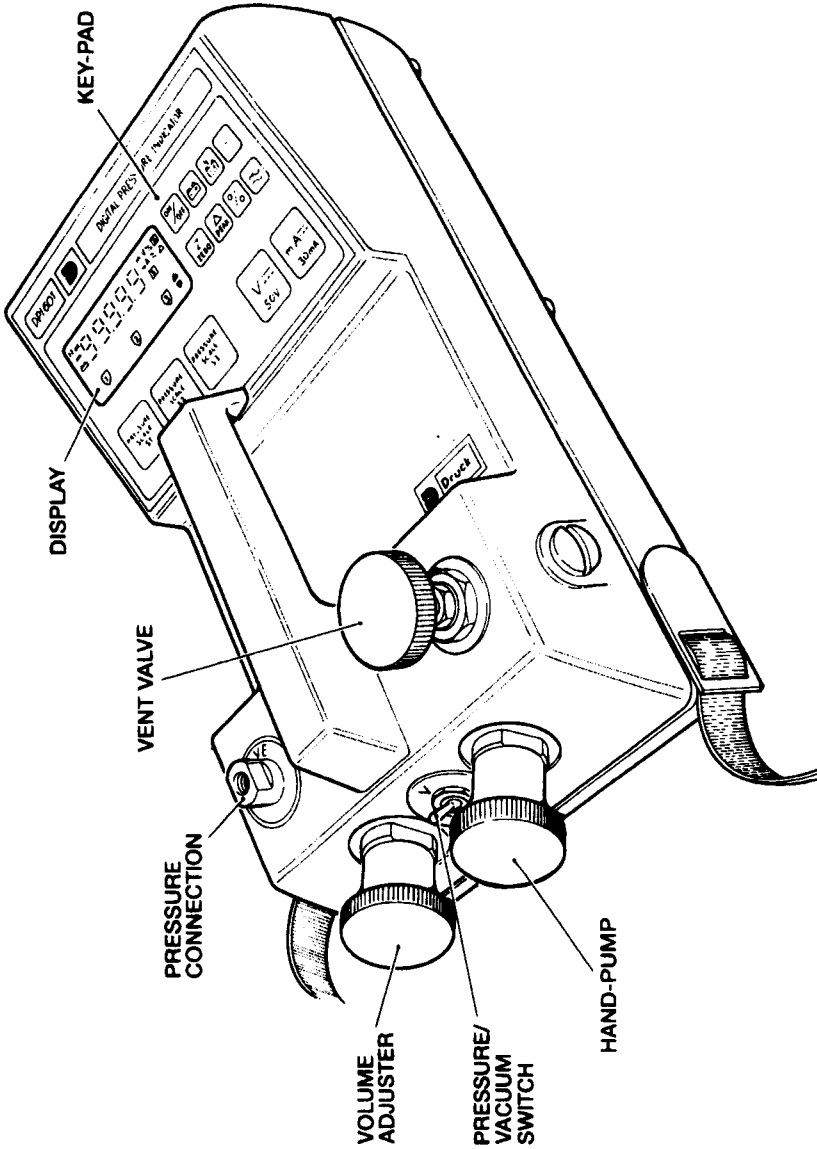

Figure 2, Instrument Controls
**3.1 Modes of Operation (Figure 2)**